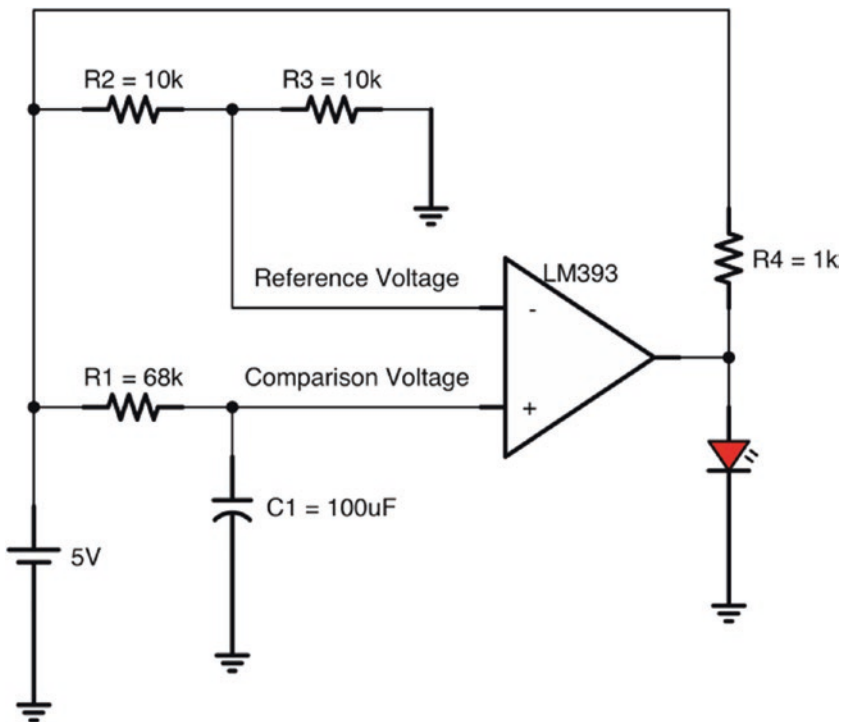

Figure 17-2. A Simple Timer for an LED
Figure 17-2 shows the full circuit. When building this circuit, don't forget that the comparator also has to be connected to the supply voltage and ground as well! As you can see, R2 and R3 form the voltage divider that provides the reference voltage for the comparator at half of the supply voltage. The values for R2 and R3 are arbitrarily chosen, but they must be equal to get the reference voltage. I chose medium-high values for these resistors so as to not waste current with the voltage divider. The circuit
7. Reconfigure the circuit in Figure 17-2 to wait for 3 seconds. Draw the whole circuit.